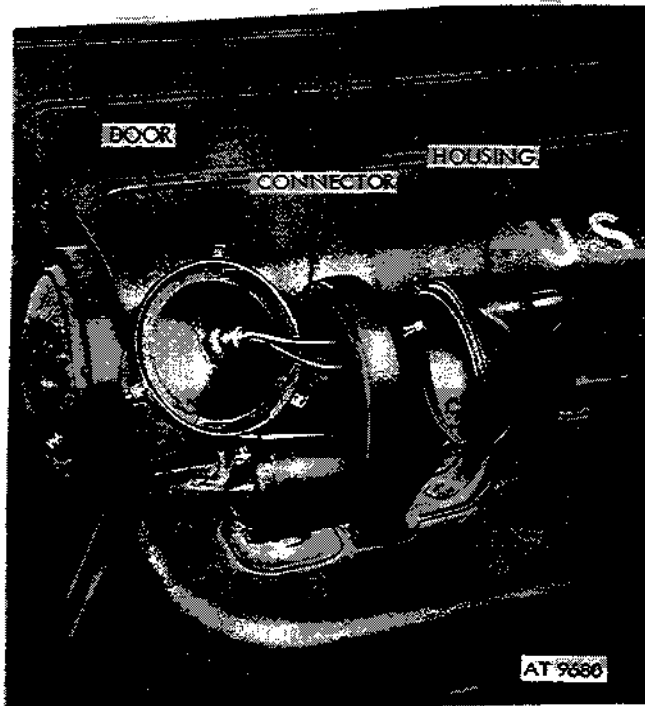

Figure 2-196. Pull door from housing and separate connectors.
(2) Pull door and lamp assembly from light housing and separate cable connectors (fig. 2-196).